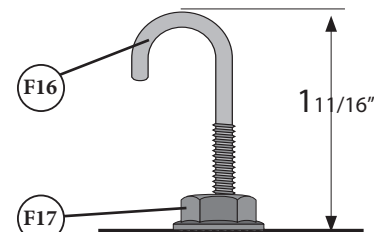

FIG. 10b
*Note: When properly installed, the distance between the motor plate and the top of the 5/16"-18" x 2" J bolt is 1-11/16". [FIG 10b]*